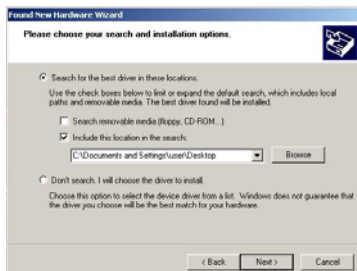

FIG. 33 Found New Hardware Wizard Installation Options dialog
6. In the next box (FIG. 33), make sure to: